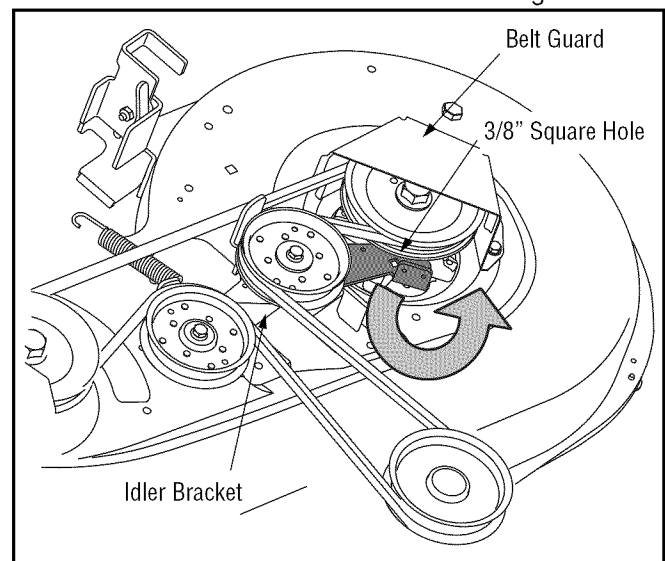

Figure 26
- Insert a 3/8"-drive ratchet wrench (set to *loosen*) into the square hole found in the idler bracket on the left side of the deck's surface. See Figure 26.